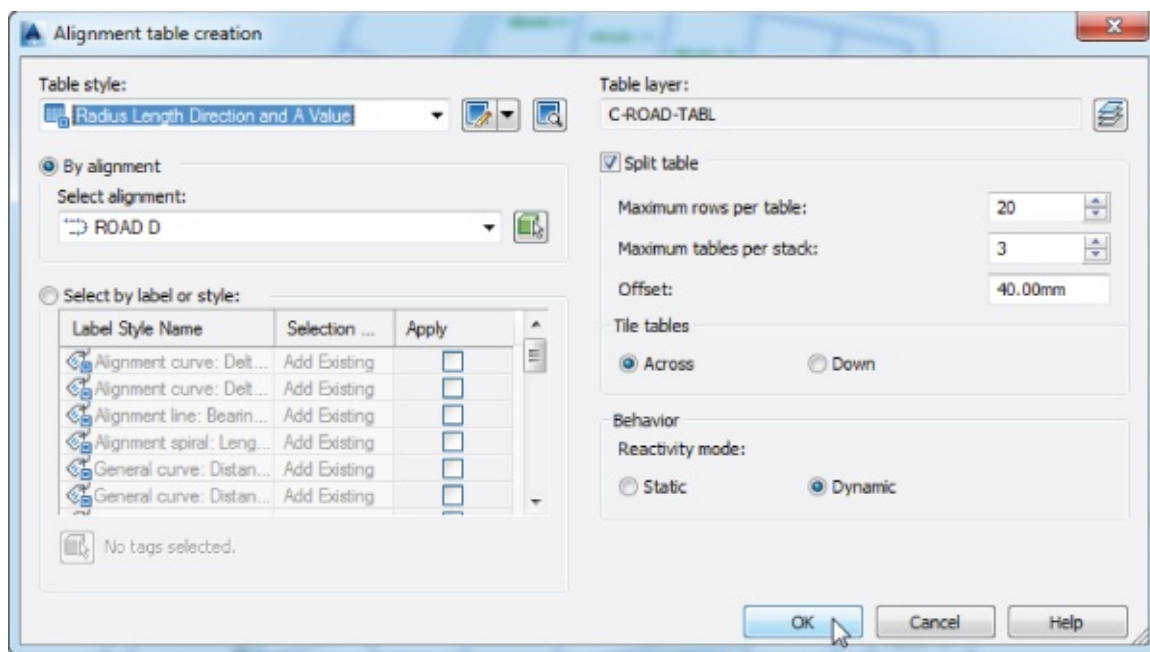

Figure 6.53 Creating an alignment segment table
2. In the Select Alignment field, choose the ROAD D alignment from the drop-down list (Figure 6.53), and click OK.